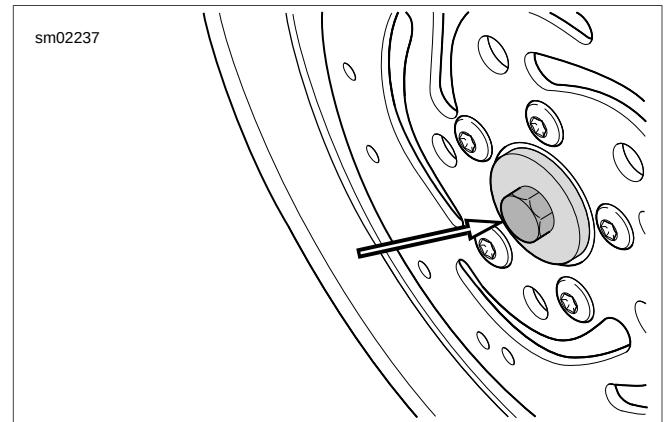

Figure 2-27. Installation Tool Support Plate
- b. See Figure 2-27. Place threaded rod through support plate. Insert assembly through wheel.